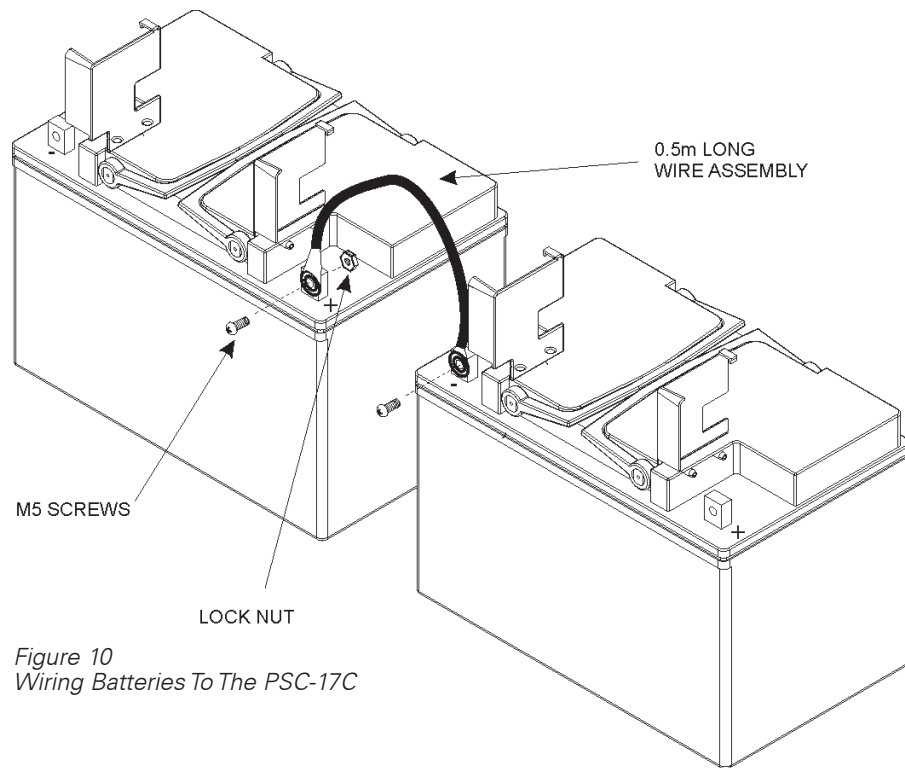

Figure 10
1. Using the 0.5m long wire assembly, connect the two batteries together, as shown in Figure 10. Secure each end of the assembly to the battery with a M5 screw and lock nut.